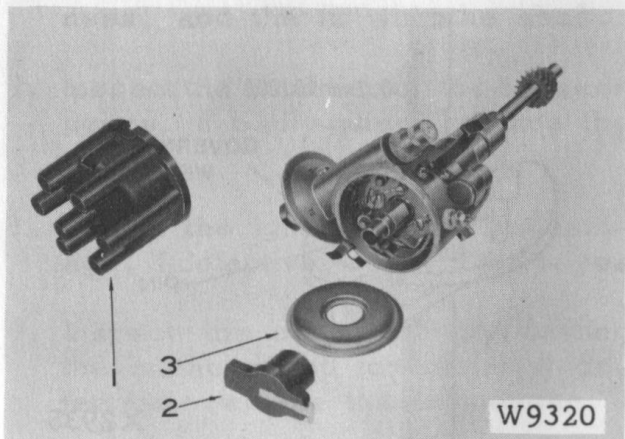

Fig. 6-37 Removing Cap, Rotor and Dust-proof Cover
- (For the above refer figure 6-37)